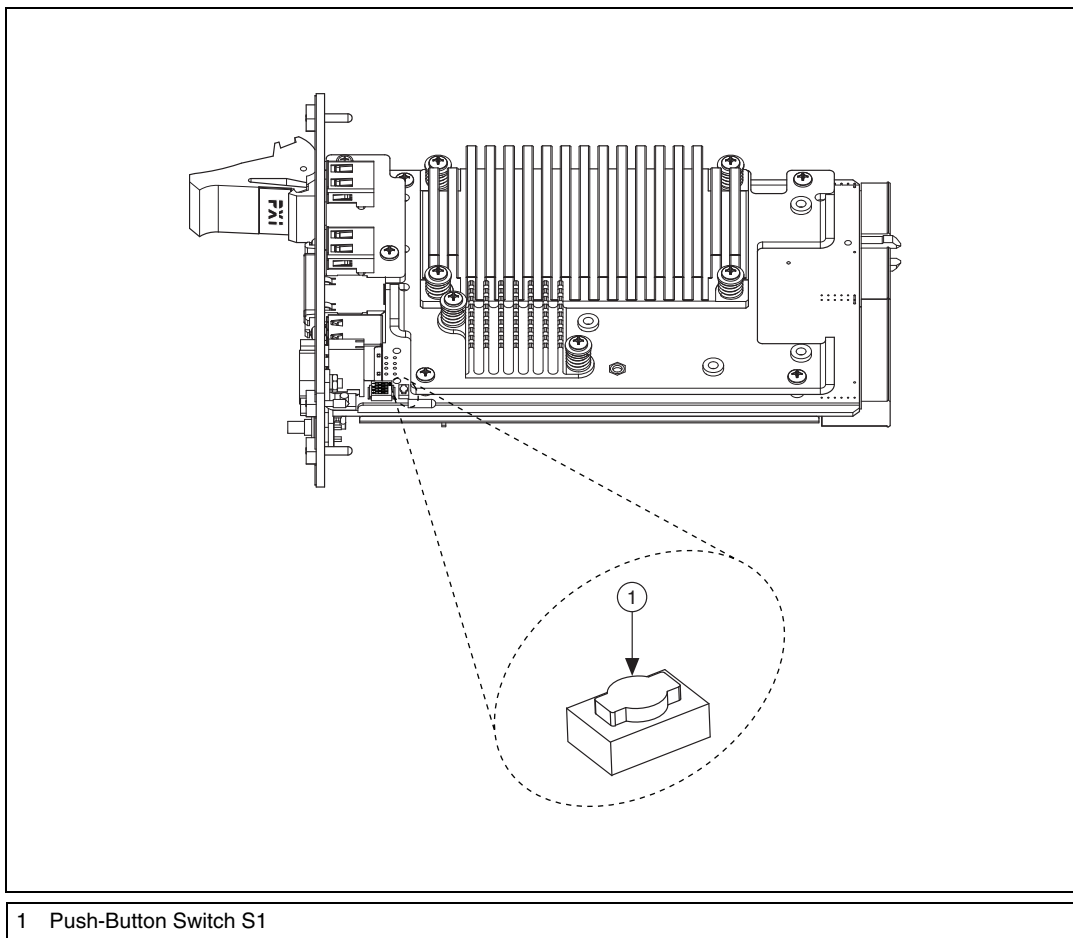

Figure 5-1. Clearing the CMOS Contents
3. Press and hold down the pushbutton switch SW1 for 2 to 3 seconds. The SW1 switch location is shown in Figure 5-1.